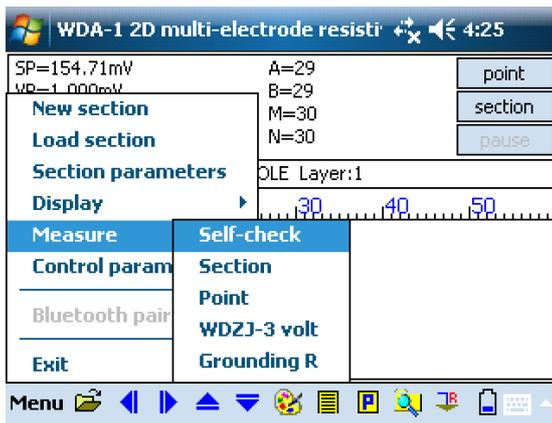
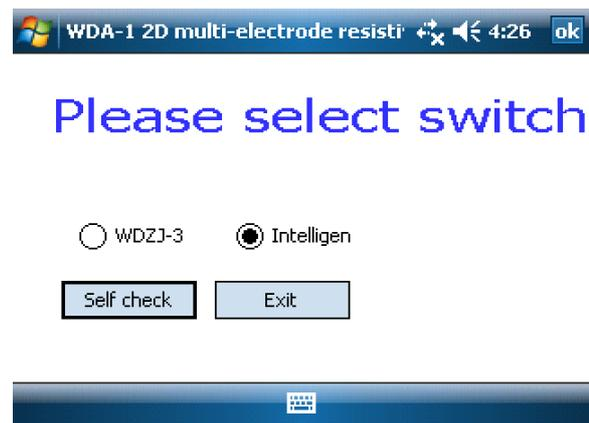

Fig.A-2
Fig.A-3
- ① Turn on the WDA-1/WDA-1A mainframe.
- ② Turn on the PDA, under “WDA-2DR” program, click “Menu”→ “Measurement”→“Self-check” (Fig.A-2), and system enters into self-check interface (Fig.A-3). Choose “Intelligent” option.